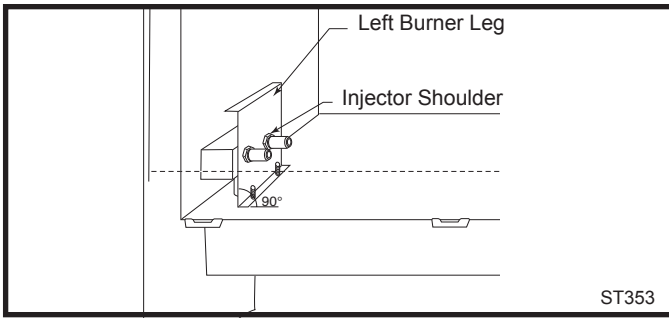

Fig. 56 Be sure to maintain 90° angle at left burner leg.
**NOTE:** It is very critical to keep the left burner leg, which holds the injectors, at a 90° angle to the base. (Fig. 56) This keeps the orifices aligned with the tubes inside burner. Failure to do so could affect the flame appearance and performance of the unit.